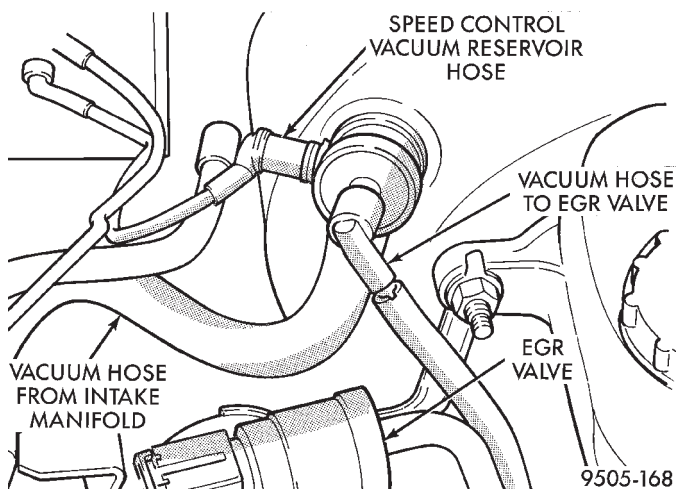

Fig. 95 Vacuum Hose Attachment To Check Valve
(5) Remove the vacuum hoses (Fig. 95) from the check valve located on the power brake vacuum booster.
- (10) Connect all previously removed vacuum hoses onto the power brake vacuum booster check valve (Fig. 95).